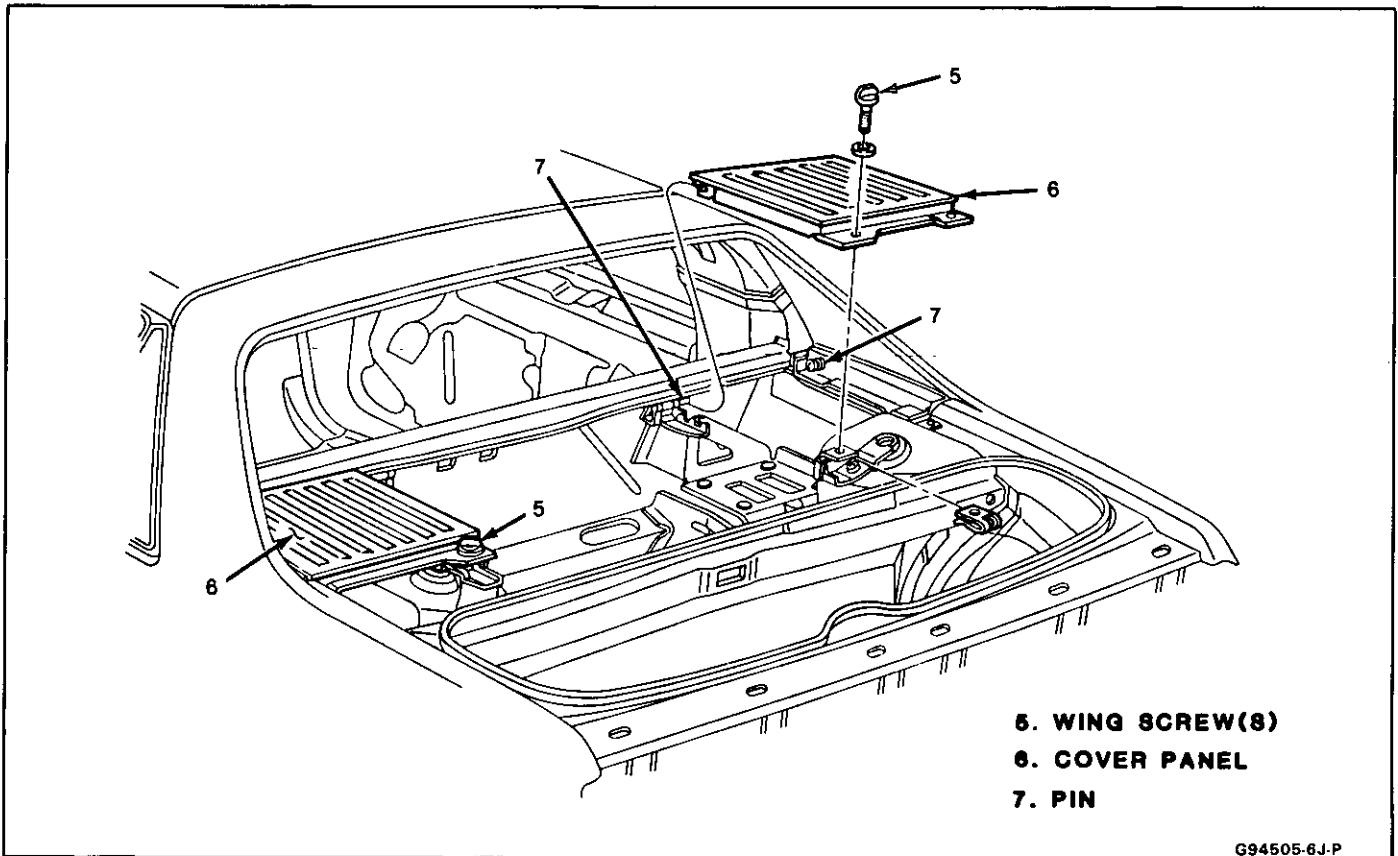
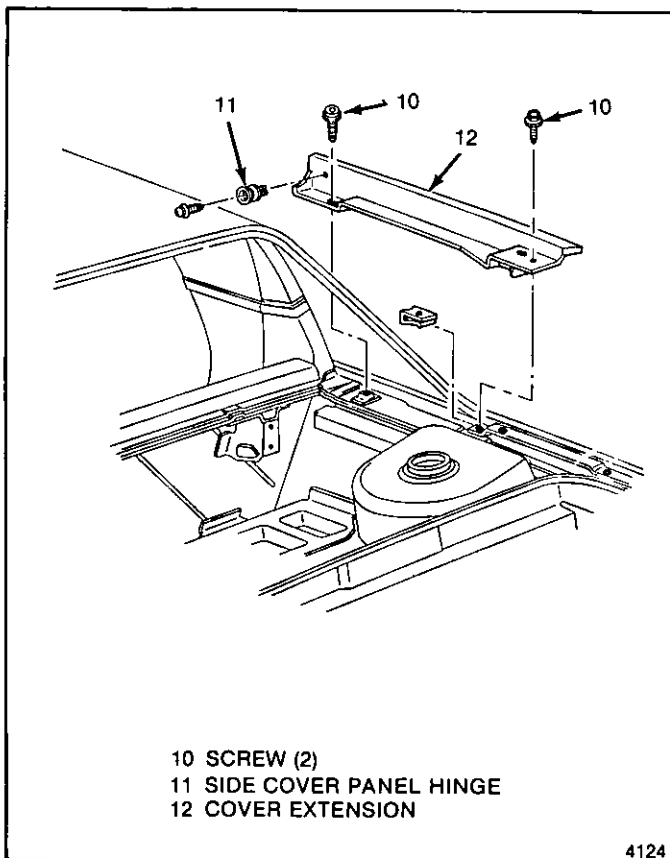
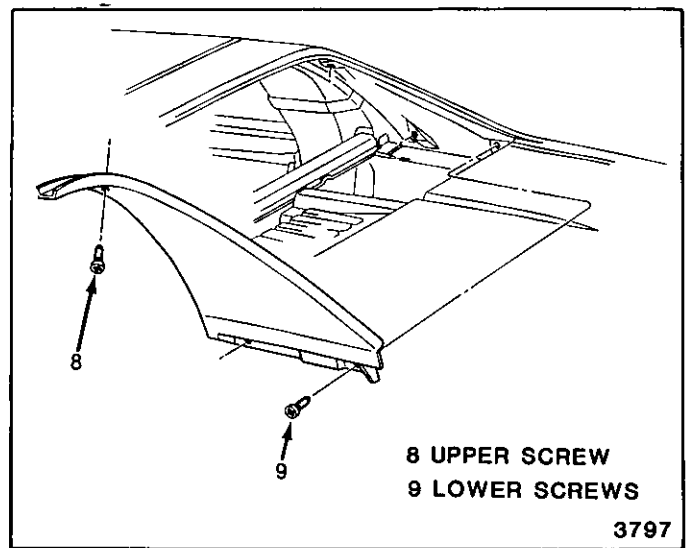

Fig. 3-Installing Rear Compartment Side Panel Cover - 37 Style Shown, 97 Style Similar
Fig. 4 Rear Compartment Cover Extension - 37 Style
Fig. 5 Back Window Side Filler Panel - 37 Style
**↔ Remove or Disconnect (Figure 3)**
3. Panel (6)
**→← Install or Connect (Figure 3)**
1. Panel (6) on pins (7)
**↔ Remove or Disconnect (Figure 4)**
2. Two screws (10)
3. Rear compartment side panel cover hinge (11)
4. Cover extension (12)
**→← Install or Connect (Figure 4)**
1. Cover extension (12)
2. Rear compartment side panel cover hinge (11) and screw
3. Two screws (10)
**↔ Remove or Disconnect (Figure 5)**
3. Upper screws (8)
4. Lower screws (9)
**→← Install or Connect (Figure 5)**